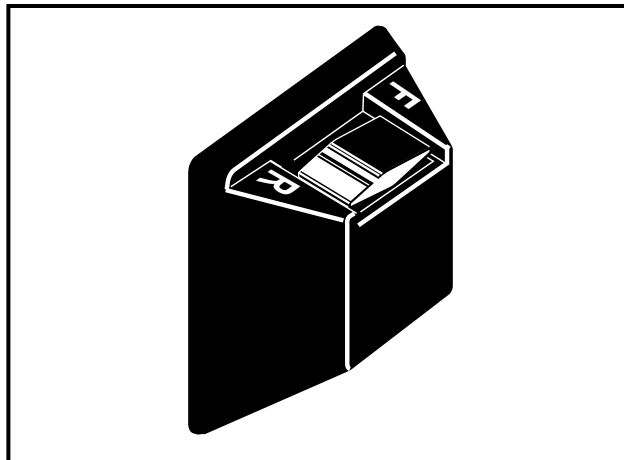

Figure 6 Forward/Reverse Rocker Switch
The Forward/Reverse (F&R) rocker switch is located in the same place as the Forward/Reverse handle on all other DS models; on the seat support panel below and to the right of the driver's right knee. The FORWARD (F) and REVERSE (R) positions are clearly marked on the F&R rocker switch. Push down the FORWARD (F) side of the switch to operate the vehicle in the forward direction, or push down the REVERSE (R) side of the switch to operate the vehicle in reverse. When the vehicle is in reverse, the reverse warning buzzer will sound. When the F&R rocker switch is positioned in NEUTRAL, with neither side down, the vehicle will not operate if the accelerator pedal is depressed (**Figure 6, Page 8**).